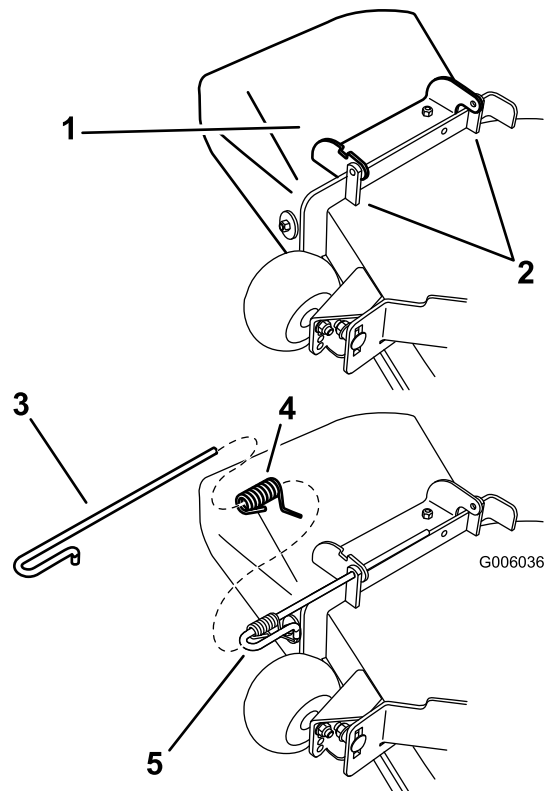

Figure 69
1. Disengage the spring from the notch in the deflector bracket and slide the rod out of the welded deck brackets, spring, and discharge deflector (Figure 69). Remove the damaged or worn discharge deflector.
2. Position the new discharge deflector assembly with the bracket ends between the welded brackets on the deck as shown in Figure 69.